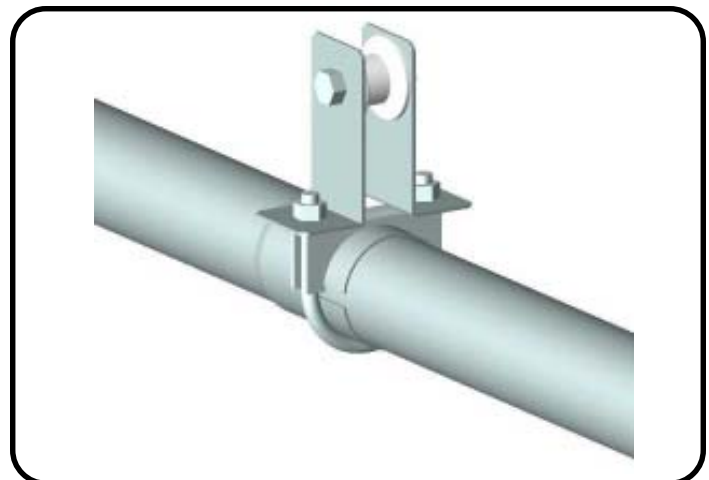

Figure 3
3. Begin assembly at the boot end of the feed line and connect all auger tubes together. Use a U-clamp at each union as seen in Figure 2, and include an insulator assembly at the boot and every 20 foot (6.1m) interval as seen in Figure 3. For tubes sections other than 10 feet (3.0m) long, place insulators at every other union. Note: Do not over tighten U-clamps. Doing so may dent or distort auger tube.